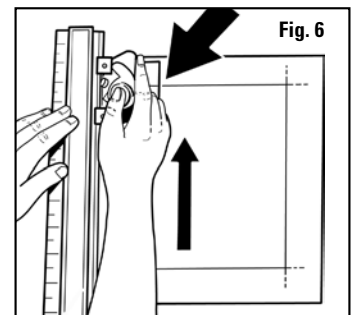

Fig. 6
4. Keeping downward pressure on the Blade Holder, slide the Bevel Cutter away from you until the silver line on it intersects with the upper pencil line. Be sure to keep even downward pressure. **Fig. 6**